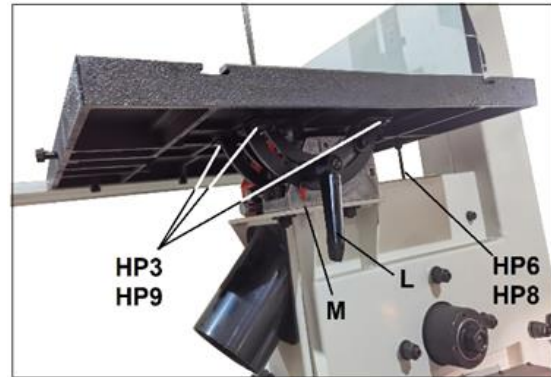

Figure 5-15: table alignments
8. When parallelism is achieved (and blade is still centered through table insert), securely tighten the four trunnion screws (HP3, Figure 5-15).
9. Insert stop screw with nut (see HP6/8, Figure 5-15) into threaded hole in table.
11. Loosen lock handle (L) and manually tilt table until table and blade are square.
12. Tighten lock handle (L).
14. If needed, loosen screw and move pointer (M, Figure 5-15) to align with zero on scale. Retighten screw.